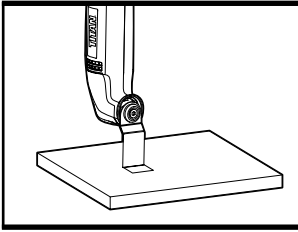

Fig. 7
8. SAWING WITH THE END CUT SAW BLADE (See Fig. 7)